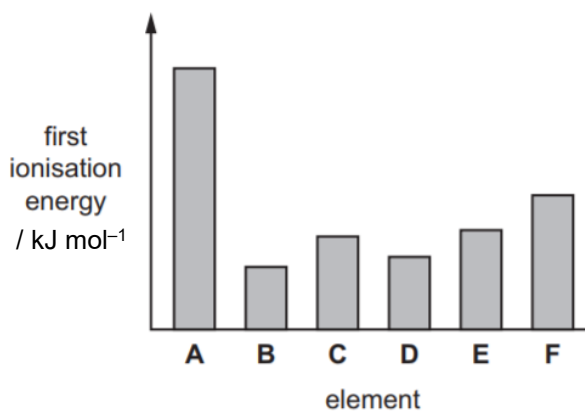

Fig. 2.1
- (ii) The graph in Fig. 2.1 shows a sketch of the first ionisation energies of six consecutive elements within Periods 2 and Period 3.
Identify the alphabet letter in Fig. 2.1 that belongs to element X.